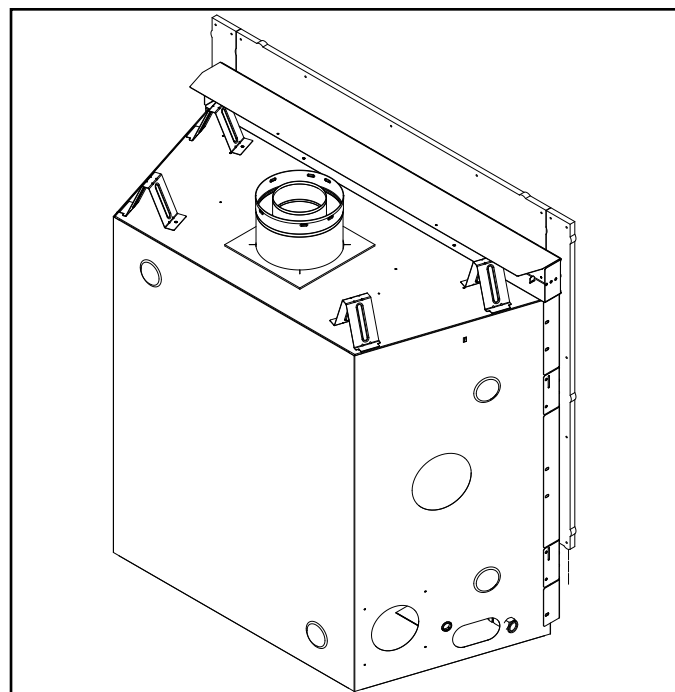

Figure 6.4 RAVE3012-IFT - Shipping Support and Seal Cap Removed
2. Remove and discard shipping support, seal cap, and screws. See Figure 6.4.